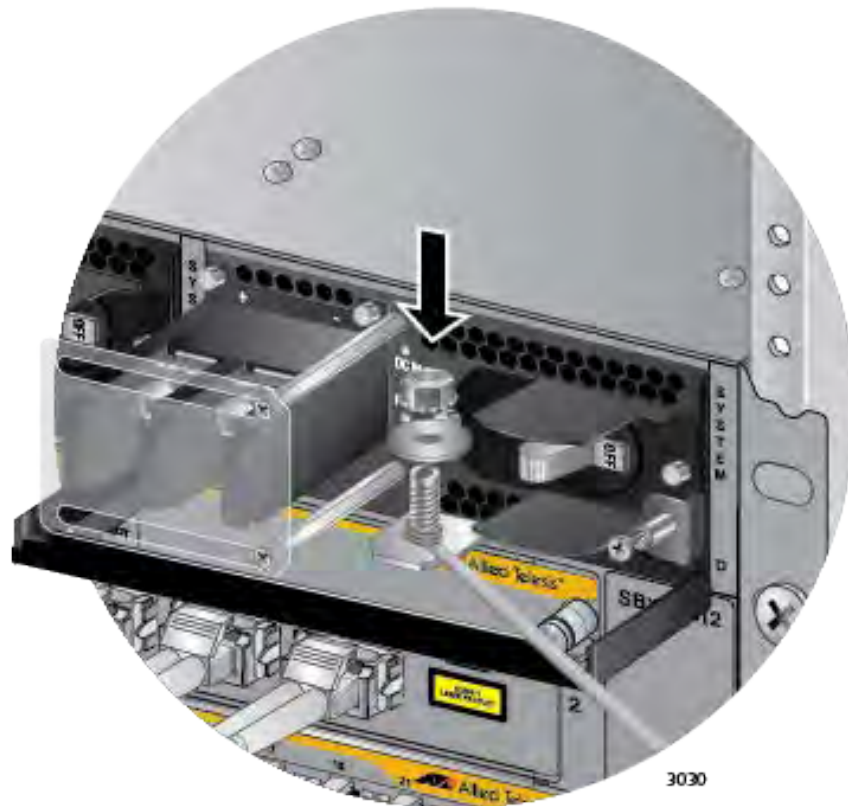

Figure 132. Securing the Bare Grounding Wire to the Grounding Post
4. Secure the wire with the nut and washer removed in step 2, and an 8 mm wrench, as shown in Figure 132.